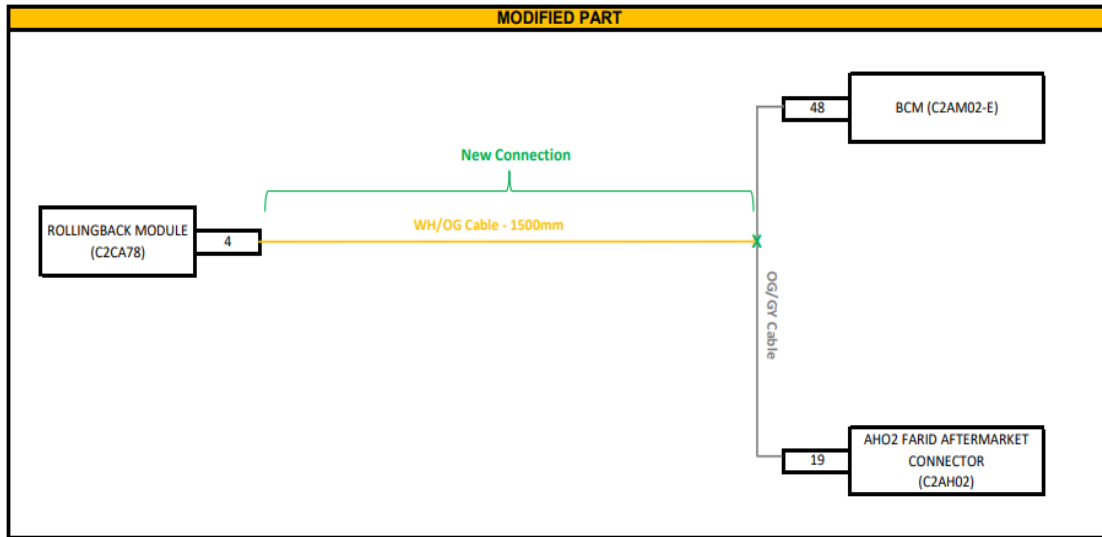
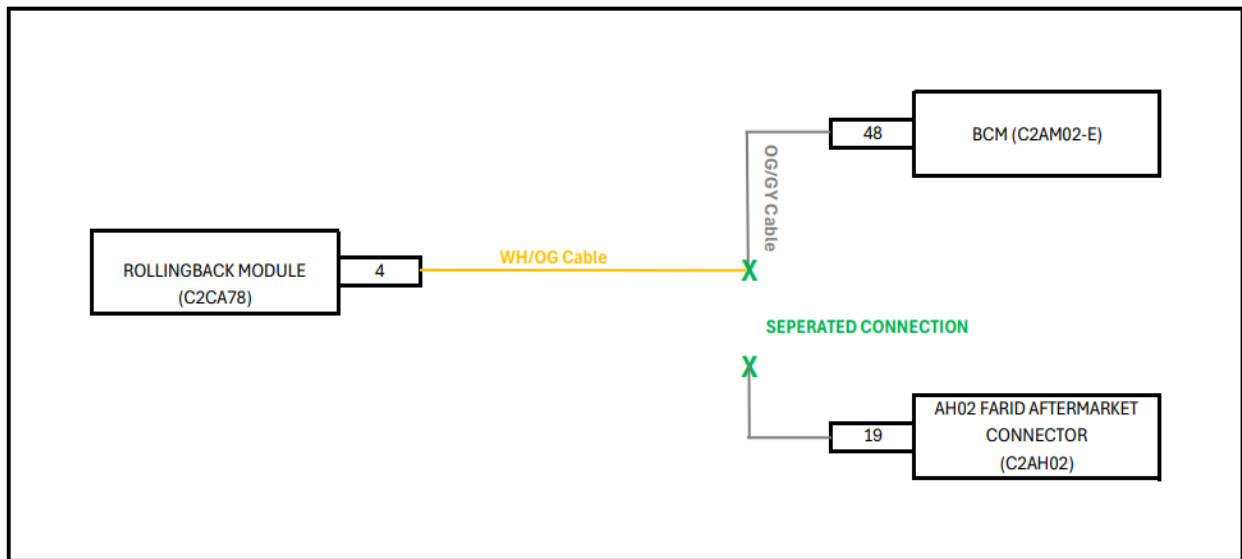

Figure 8: Connection Made with TSB-ENHCV-0625
Figure 9: Separated Connection Between C2AH02 and C2AM02-E Connectors
- 3) The connection shown in **Figure 8** was made according to **TSB-ENHCV-0625**. Disconnect pin 19 of the C2AH02 FARID Aftermarket connector. Pin 19 of the C2AH02 FARID Aftermarket connector must not have any physical connection with the line between pin 4 of Rolling Back module and pin 8 of the BCM C6 (C2AM02-E) connector. Ensure that pin 19 of the C2AH02 FARID Aftermarket connector must not be connected to anything. The physical disconnection of the connection is shown in **Figure 9**.